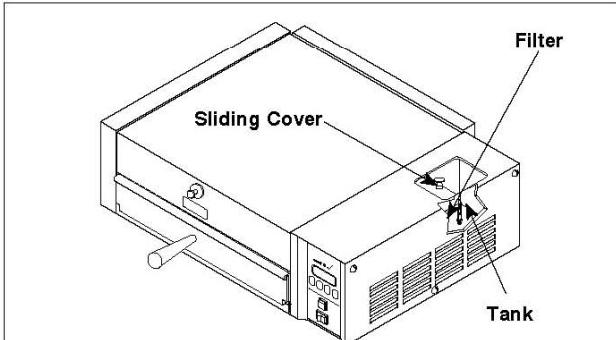

Figure 2. Filling Water Tank—MS-150/155
1. **MS-150/155:** Open the sliding tank cover on top of the unit (Figure 2).